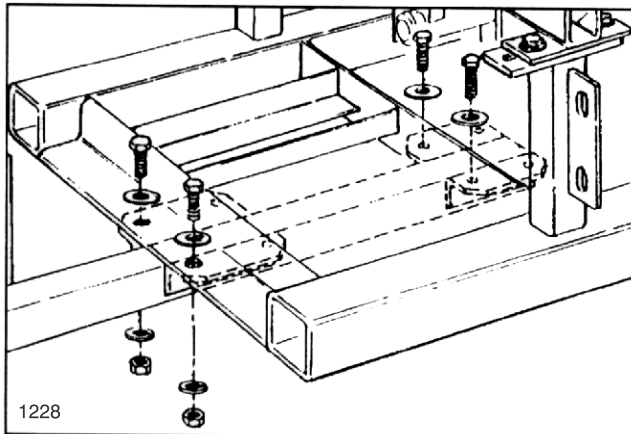

FIG. 2
2. Mount the Tongue and Jack Assembly to the underside of the Skid Frame as shown in FIG. 2, using four (4) 1/2" x 1-1/4" hex hd. cap screws and hex nuts. Torque to 50 ft. lbs.